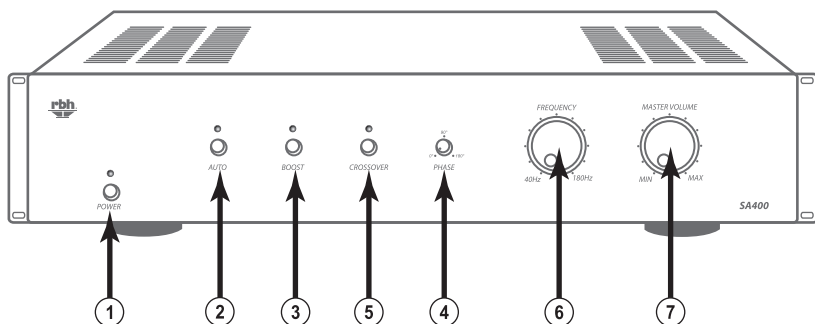

Figure 1 Front Panel View
The following are descriptions of the front panel functions (refer to figure 1).
1. **Power Button:** This button allows the amplifier to be turned on and off manually or when kept in the “on” position and the Auto Button (see figure 1, #2) is kept in the “on” position; the amp will automatically turn on when it detects an incoming audio signal. The power indicator light above the power button will glow when the amplifier is on.